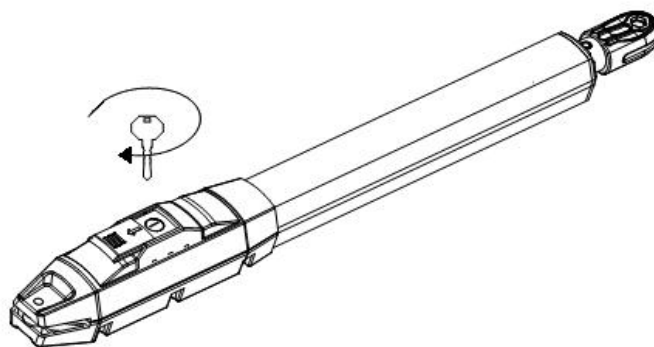

Figure 7
C) Before the installation, please unlock the two main machines. Unlock method: Open the manual release cover, insert the manual release key, rotate the key until it's released, as shown in Figure 7, then turn the telescopic arm, you'll find it's stretched by hand easily.